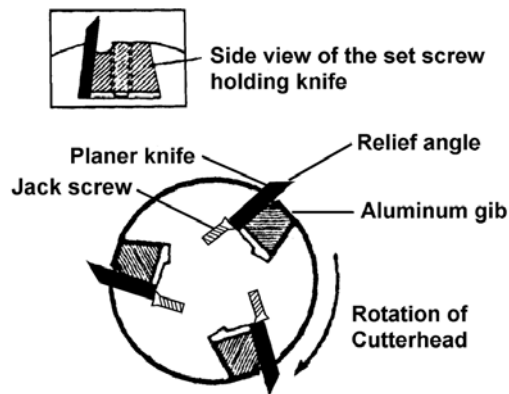

Figure 6
1. The planer knives are held in position by wedge action. The set screws press against the bottom of the cutterhead slot forcing the gibs into a wedge type seal. To break this seal and remove the knife, simply loosen the gib set screws until they are flush with the top of the gibs. See Figure 6.